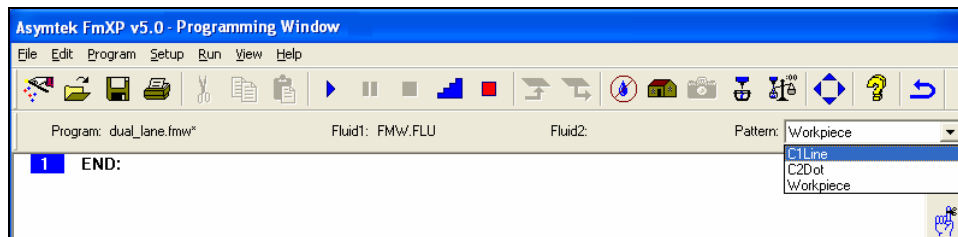

Figure 3-11 Selecting a Pattern
1. Click on the drop down arrow in the Pattern textbox and select **C1Line**. See Figure 3-11.